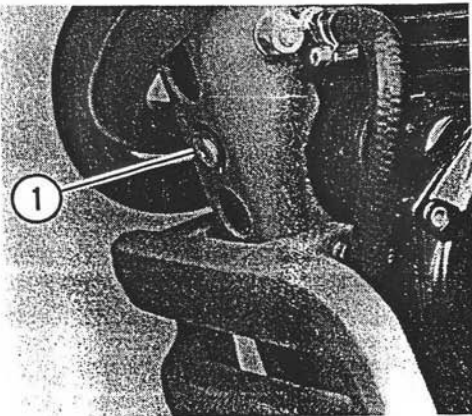

Figure 3-1. Frame Reservoir Drain Plug
3. See Figure 3-1. Using a 5 mm hex key, remove socket head plug (1) on front side of frame tube and drain oil from reservoir in frame.
6. See Figure 3-1. Using a 5 mm hex key, install socket head drain plug (1) into front side of frame tube.